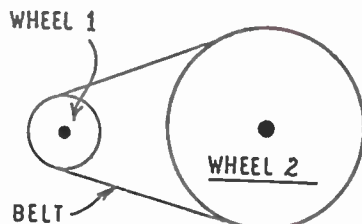

Fig. 3—Belt drives
The approximate ratio will be found by measuring the diameter of the wheels at the point where the belt runs. A typical drive is shown in Fig. 3. Division in the way described for approximate gear ratios will give the belt-drive ratio, and a few examples will make this clear. Here, (A) is the diameter of the small wheel (1 in Fig. 3) and (B) the diameter of the large wheel (2 in Fig. 3).